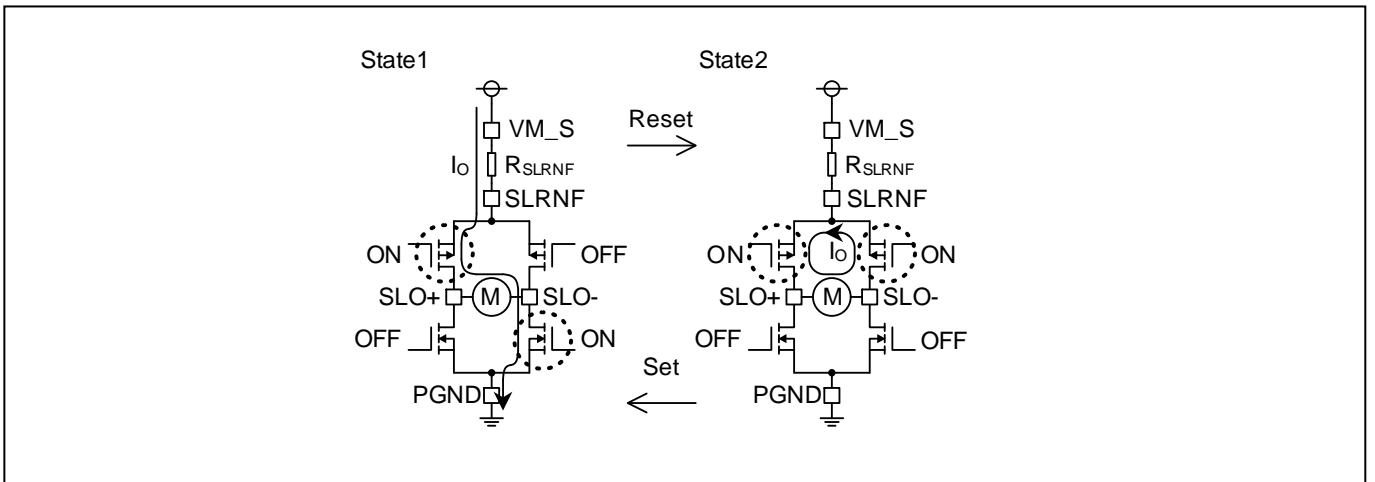

Figure 25. Set[State 1], Reset[State 2] to Current Load
- Reset[State2] : The output turns OFF when the increasing load current reaches the current value proportional to driver input or limit current value. The increase in the load current is caused by the L component of the motor when operating during this state as shown in Figure 25. State 2.